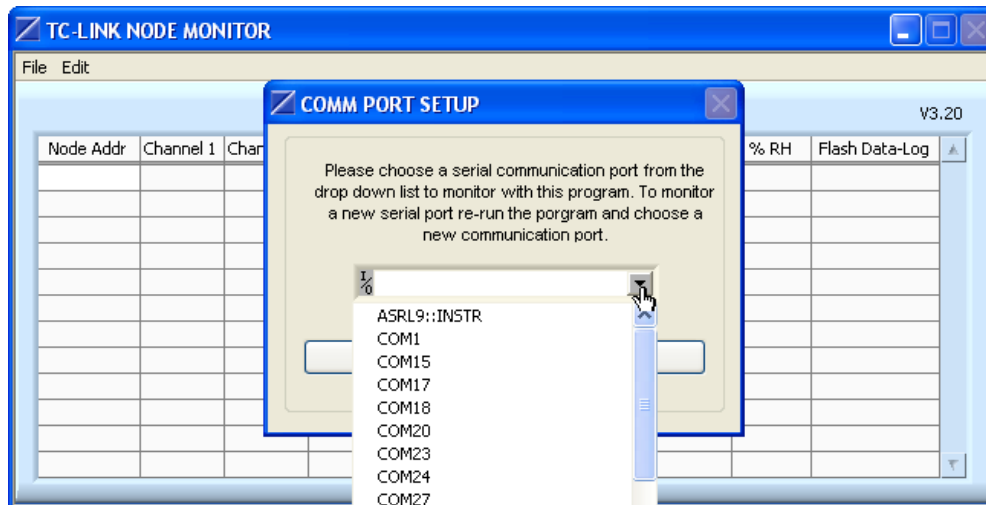

Figure 3
- Click the down arrow on the I/O drop-down box. Select the appropriate comm port. See Figure 3.